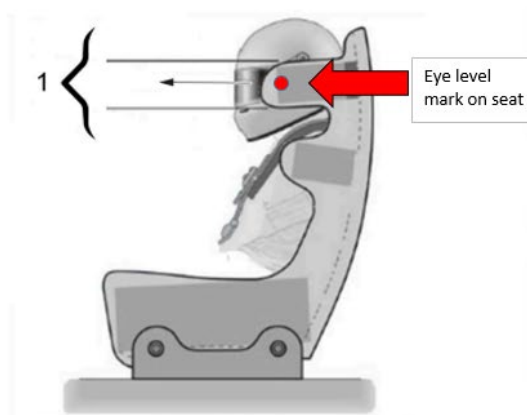

Fig. 41: Eye level corridor
- ▶ The driver must be positioned in the seat so that his/her eye level is within the corridor [1] (Fig. 41).